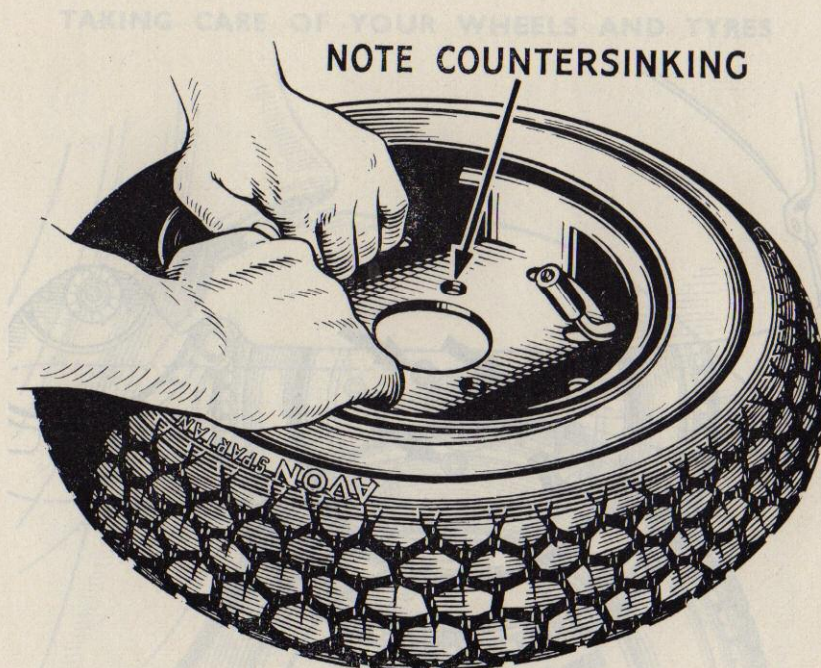

Fig. 10. Replacing first half of Wheel.
5. Place the half-wheel containing the countersinking for the wheel nuts, so that the valve comes through the hole (Fig. 10).